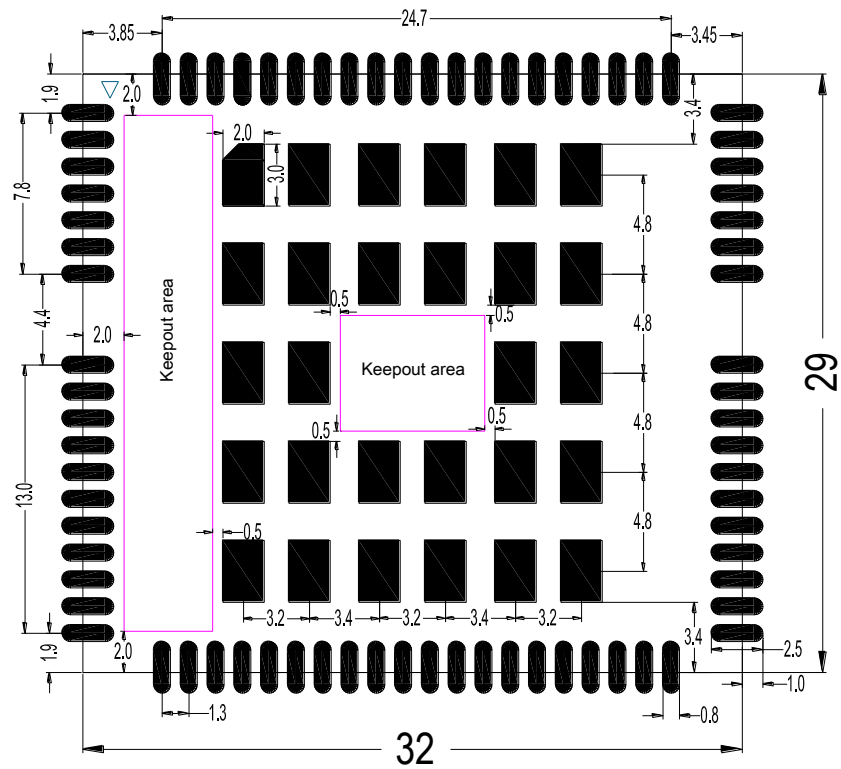

Figure 35: Recommended Footprint (Top View)
3. The red areas are recommended footprint shown in Figure 35.